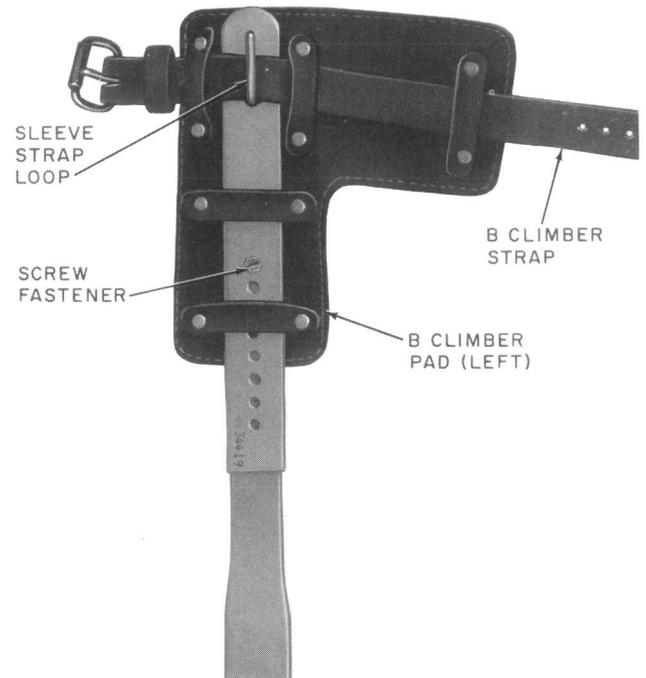

Fig. 6—B Climber Strap and Pad Installed on Climber
2.11 The B climber strap (Fig. 6) consists of a 22- or 26-inch strap with a buckle permanently attached. The B climber strap is used to hold the pad on the leg iron and to fasten both to the employee's leg when the climber is worn.
(2) Place the B climber strap and pad on the sleeve as shown in Fig. 6. The strap should be placed so the tongue will point toward the back of the leg when buckled.
(3) Place the sleeve on the shank of the climber, step on the stirrup and buckle the foot strap so the stirrup is held firmly against the arch of the shoe. Adjust the sleeve to a position that is most comfortable.
(4) Place one of the slotted hexagon head setscrews through the hole in the sleeve that is aligned with the threaded holes in the climber and tighten the setscrew to hold the sleeve in place.